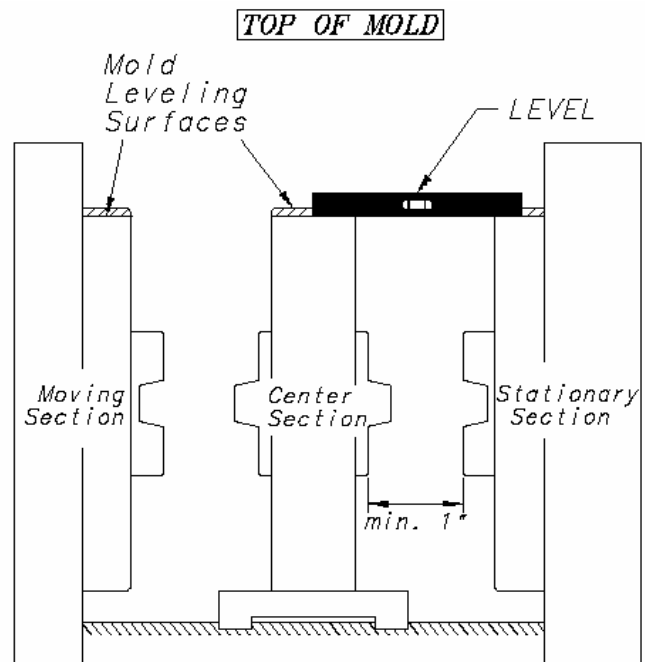

Fig.2 - SIDE VIEW (OPERATOR SIDE)
2. Open molds a minimum of 1-inch at the parting line. (*Fig.2*)
3. Place one end of a level on the center section, and the other end on the stationary/ moving section. (*Fig. 2*)